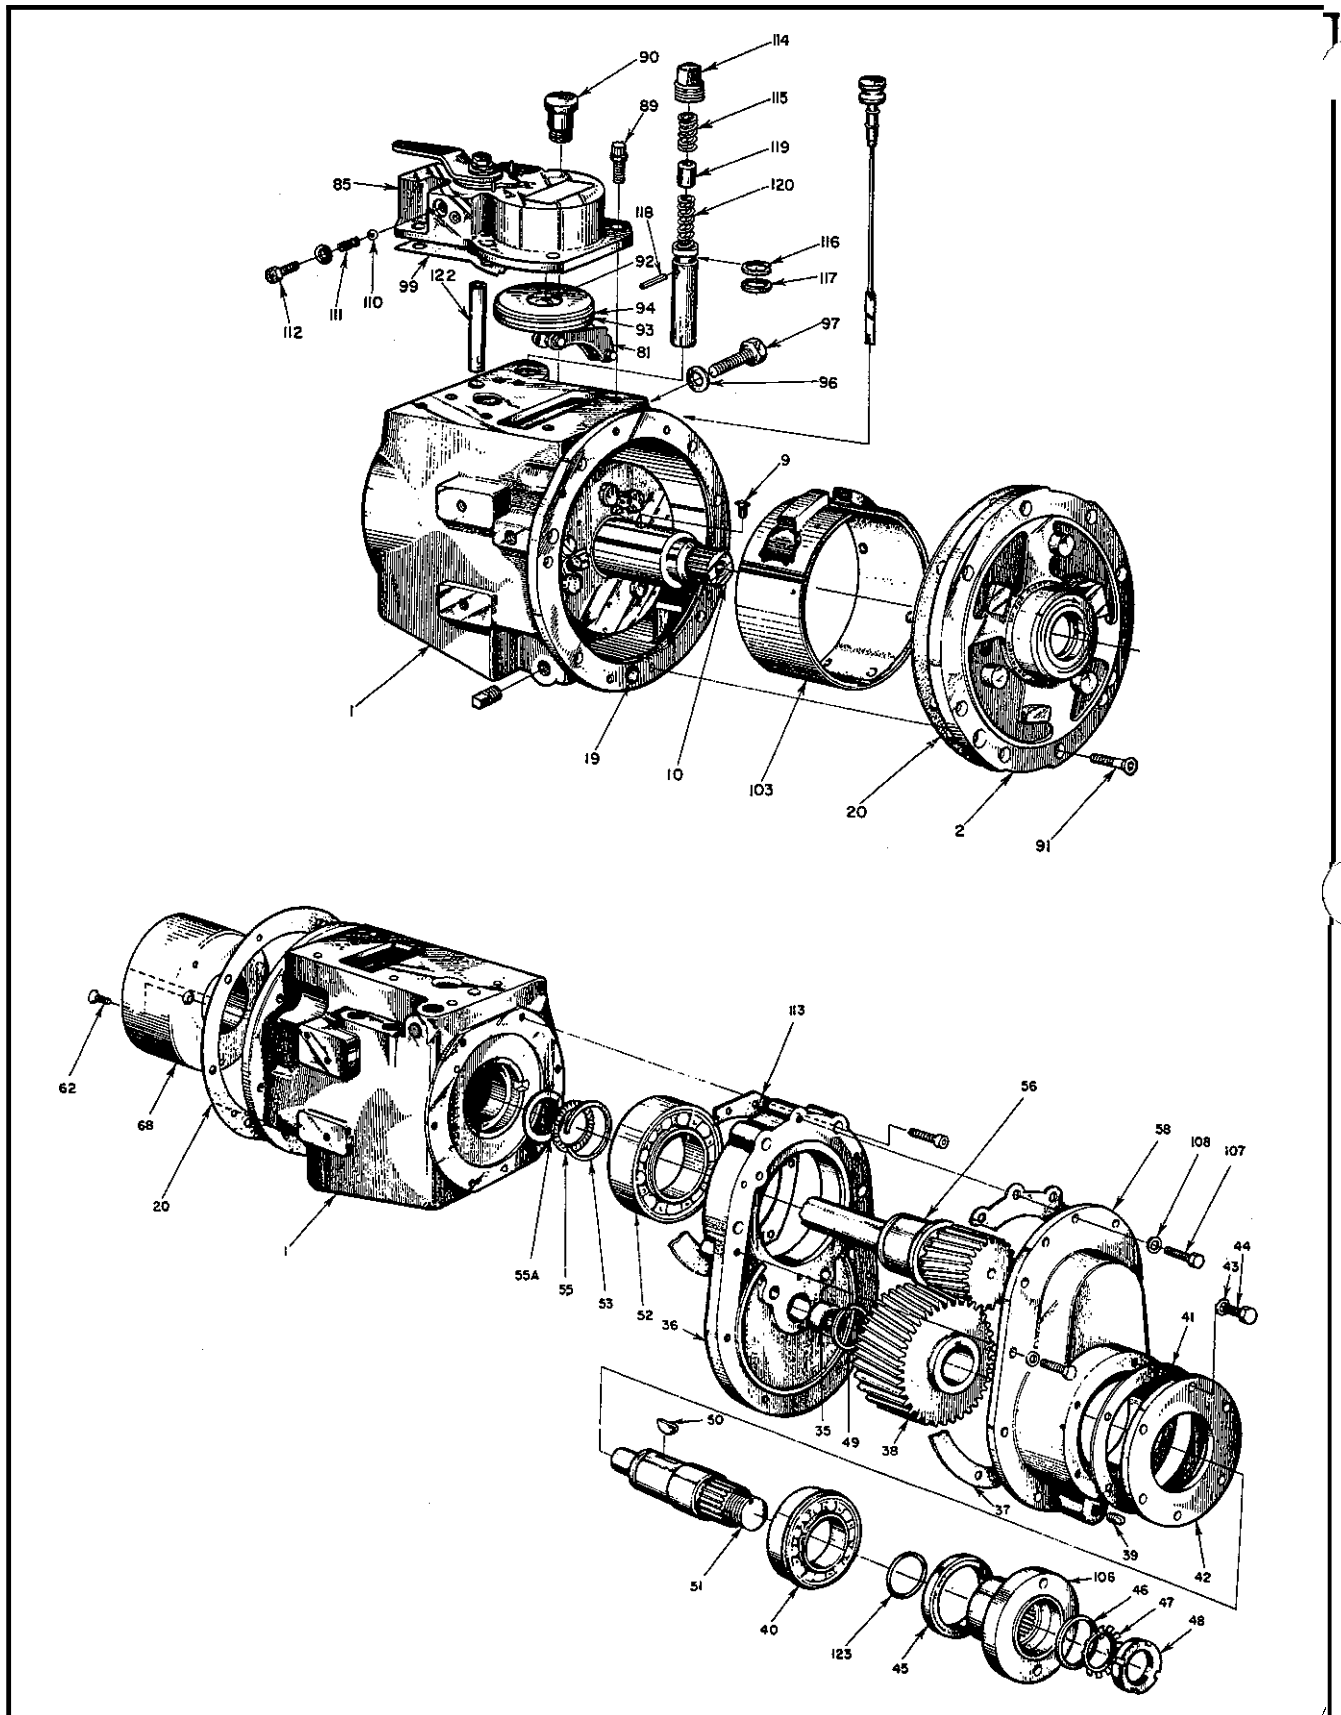
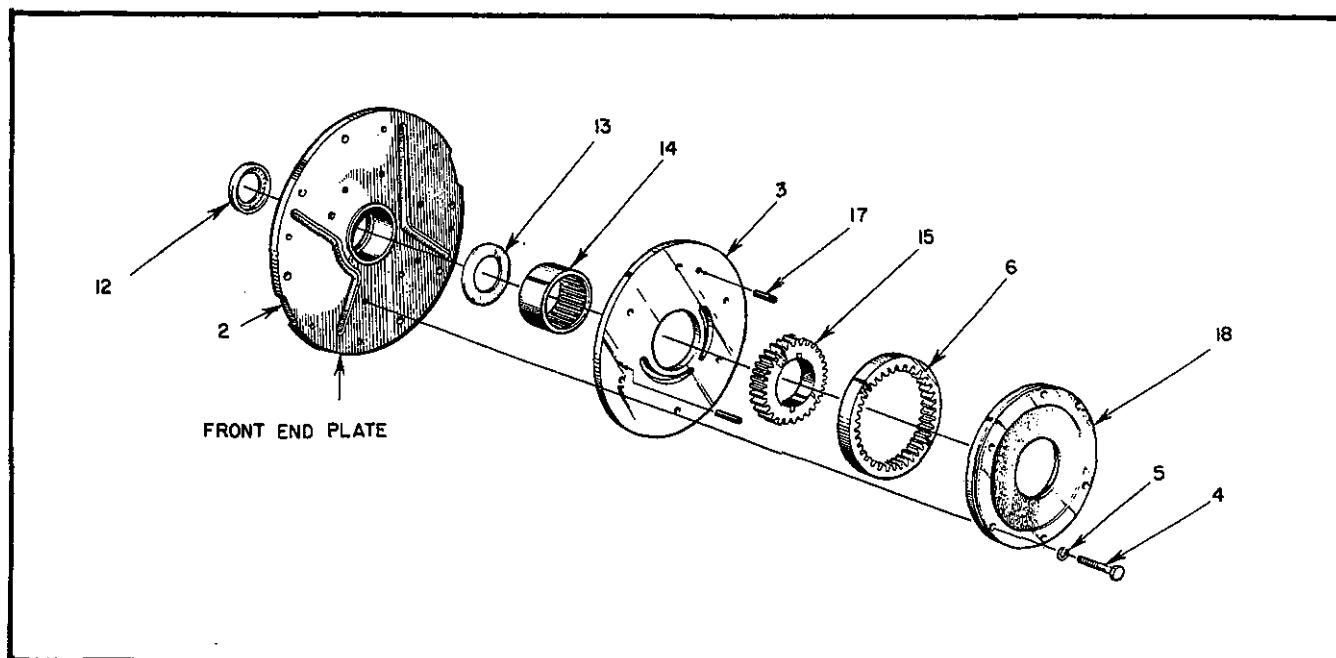

Fig. 151—Complete Assembly
Fig. 153—Front End Plate and Pump
FIGURE 151 and 153.
NOTE: To assure proper assembly, **make** notation of direction of cast **arrow** on front end plate before removing front end plate (Fig. 151).
2. Place assembly tool T-4689 over splined end of **engine gear (10)** to **protect oil seal** during **removal** of front end plate.
3. Lift front end plate assembly, figure 151, from housing assembly taking care not to damage front oil **seal** in front end plate.
4. Remove pump drive key (9) from engine gear (10).
5. Remove six capscrews (4) and six **lockwashers (5)** from pump housing (18), figure 153.
6. Remove **pump** port plate (3) from front end plate. Care must be taken not to damage pump housing pins (17).
7. Remove pump port plate (3) from pump housing and **remove** inner pump gear (15) and outer pump gear (6) from cavity in **pump** housing.
8. It is not necessary to remove two pump pins (17) from pump housing (18) for further servicing. **However**, if **pump** housing pins have become **damaged** and require **re-**placing, they may **be removed** by stripping with a plier and twisting.
9. Unless damaged and they require **re-**placing, do not attempt removal of roller bearing (14) and front end plate thrust washer (13) from front end plate.
10. Unless damaged and it requires **replacing**, do not attempt removal of oil seal (12) from front end plate. If necessary to remove oil seal for replacement, take care not to damage roller bearing (14) and front end plate thrust washer (13).